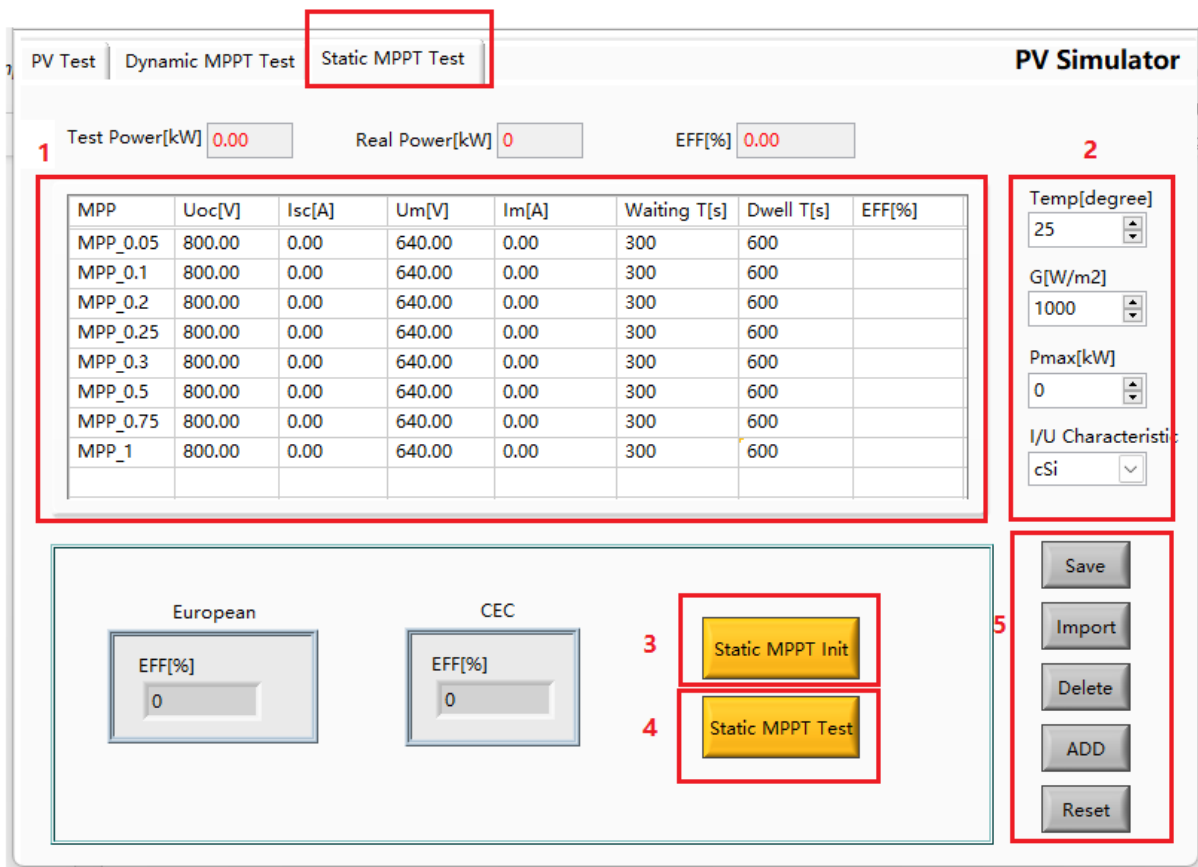

Figure 5-16 Static MPPT test
Set the temperature (Temp), I/U characteristics (crystalline silicon/thin film mode), irradiance (Irradiance), Pmax and other parameters (Figure 5-16②), click the initialization button (Static MPPT Init) (Figure 5-16③), and finally click Static MPPT Test button (Static MPPT Test) (Figure 5-16④), the software will automatically calculate and display the real-time parameters during the test (Figure 5-16⑥). 5 minutes for each line and 10 minutes for the test. When the test is completed, the equipment will automatically shut down. When all tests are completed, the static maximum power point tracking efficiency η_{Mppt} will be calculated according to European standards and CEC standards. Click "Reset" to restore the data in the static efficiency test panel to the initial state.